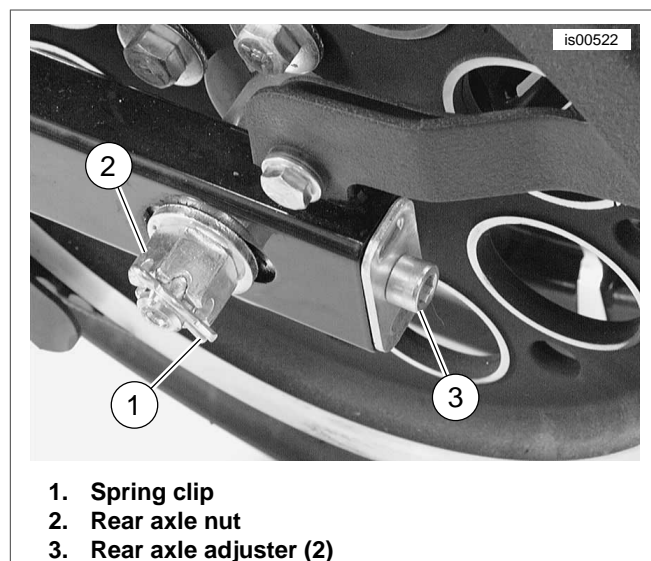

Figure 2. Rear Axle Nut and Adjusters
3. See Figure 2. Remove the spring clip (1) from the left side of the rear axle. Loosen, but do not remove, the rear axle nut (2).
4. Turn the axle adjusters (3) on each side of the rear wheel counterclockwise about the same amount to move the rear wheel forward and allow slack in the drive belt.